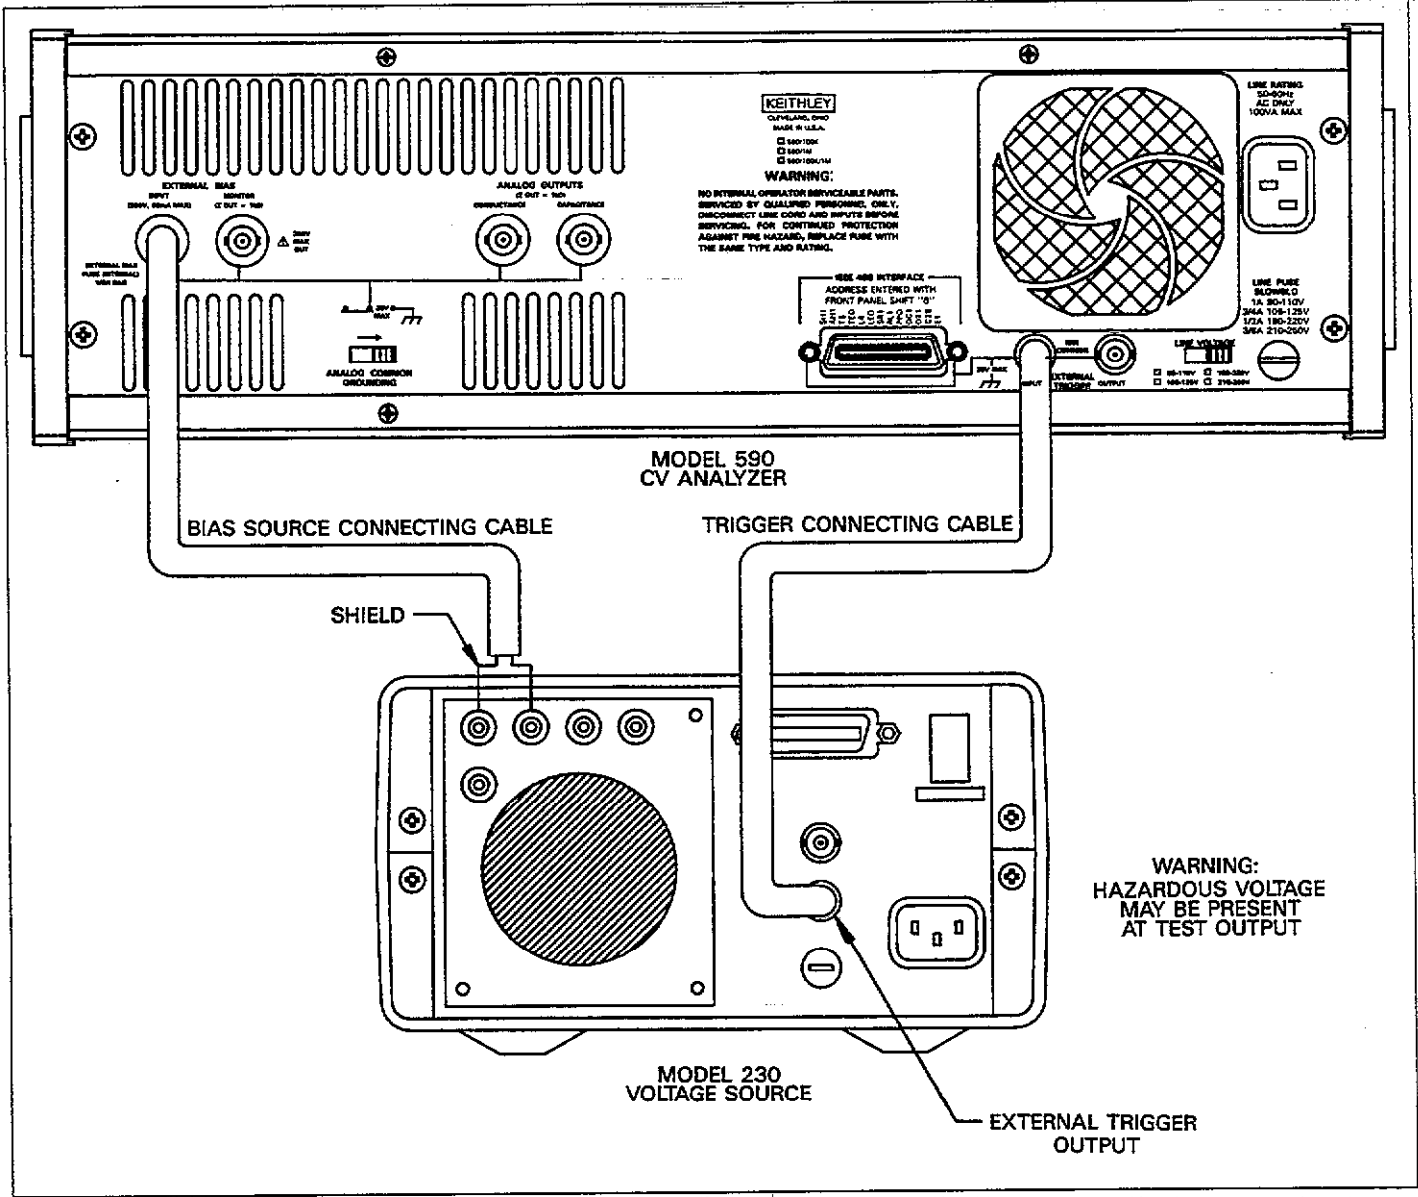

Figure 3-50. External C vs t Connections
2. Press the C vs t key and then use ▲ or ▼ to display data at the desired buffer location. Figure 3-50 shows the format for C vs t display.